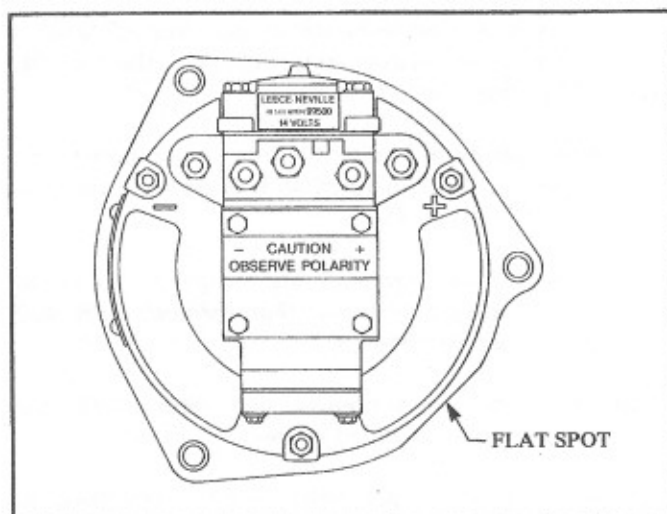

Figure 39
**CAUTION:** The position of DE housing mounting flange must match the position shown in Fig. 39.